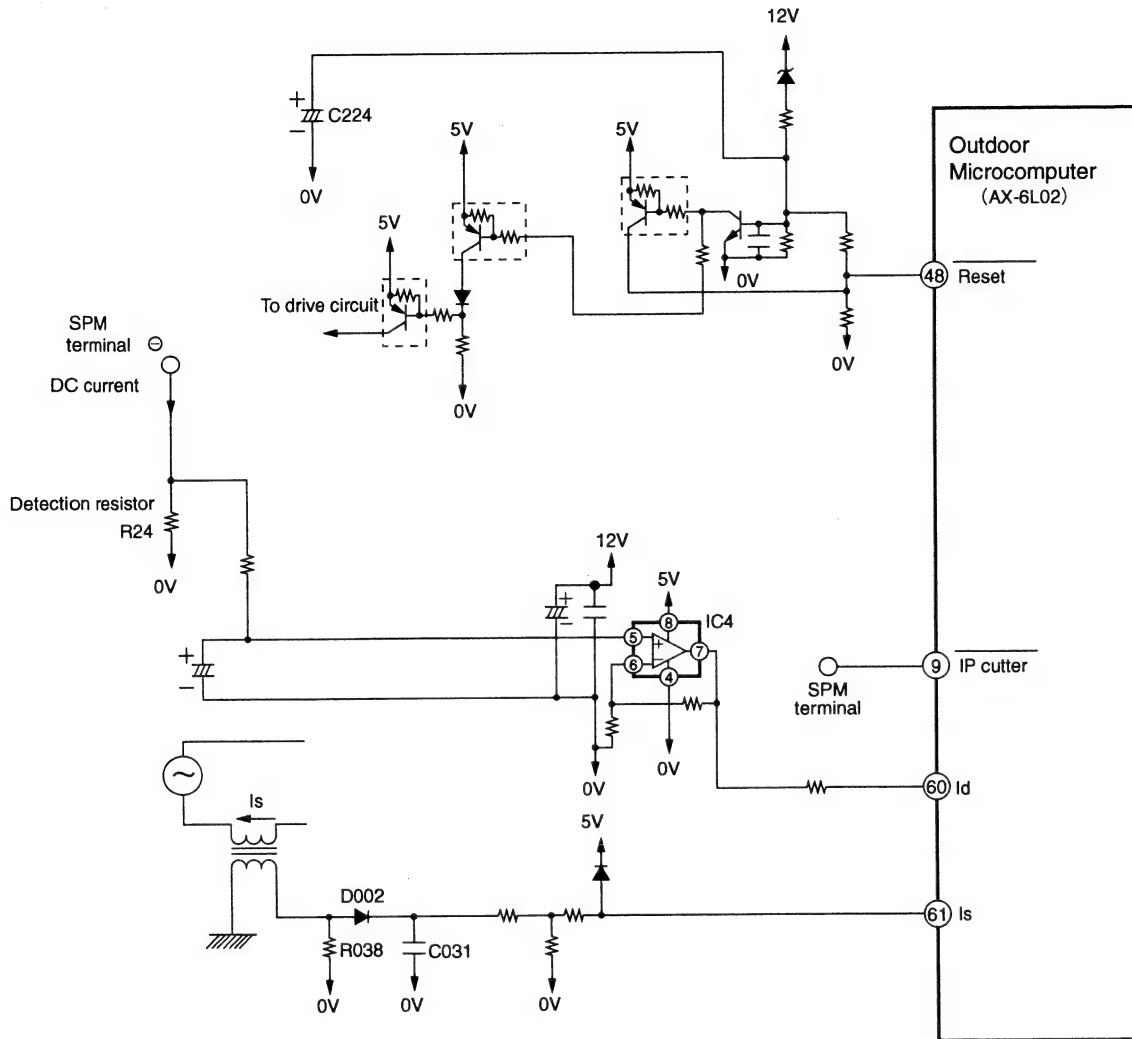

Fig. 7-1 Peripheral circuit of microcomputer (AX-6L02)
- Fig. 7-1 shows the microcomputer and its peripheral circuits.